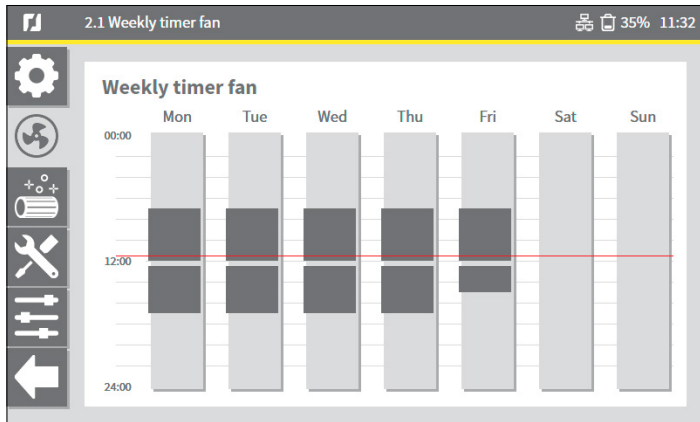

Fig. 4.3 Weekly timer setting (example)
Fig. 4.3 shows a graphical view of a weekly timer setting and shows an operating block in the morning and in the afternoon, including a lunch break. For Friday(s) different settings are made.
- Select the vertical bar Mon (Monday)6, which acts as a button (refer to Fig. 4.3).